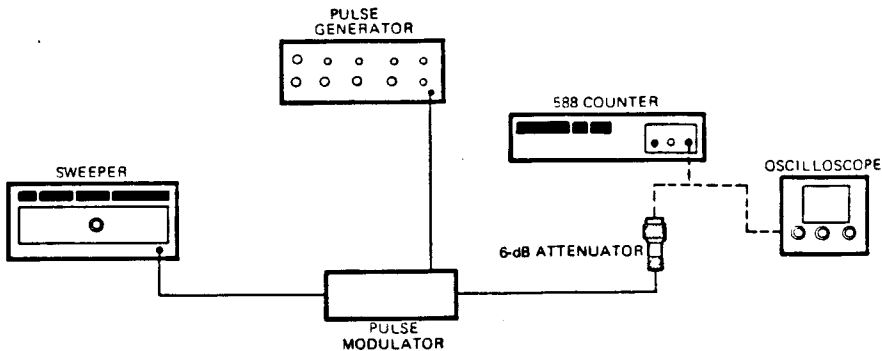

Figure 4-20. Band 3 Distortion Error Test Setup
1. Connect equipment as shown in Figure 4-20.